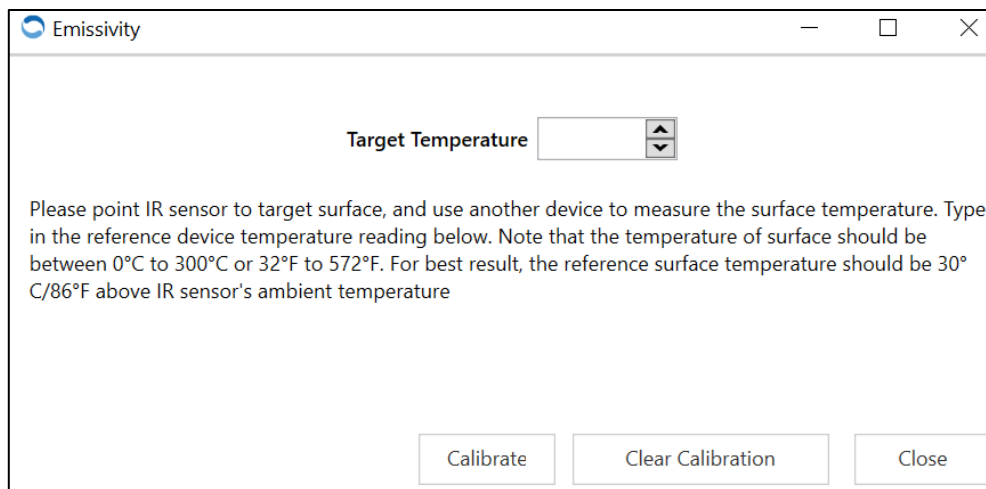

Figure 13
Step 3: Once the target temperature has been determined, enter the target temperature into Omega Sync. See **Figure 13**.